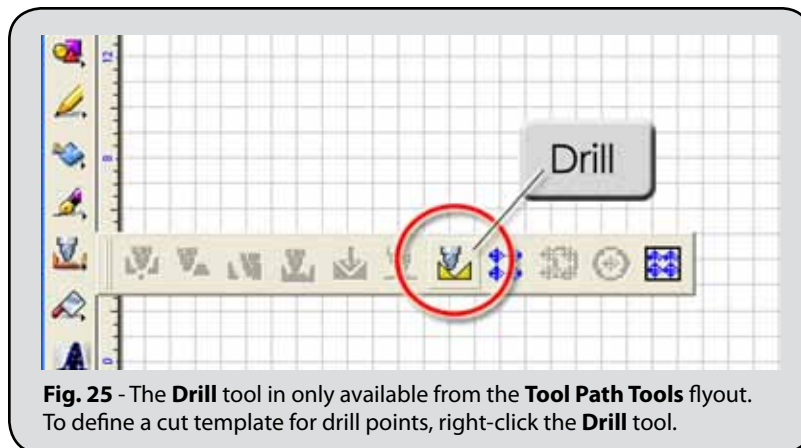

Fig. 25 - The **Drill** tool is only available from the **Tool Path Tools** flyout. To define a cut template for drill points, right-click the **Drill** tool.
1. From the **Tool Path Tools** flyout, right-click the **Drill** tool (Fig. 25).